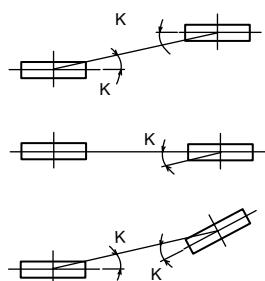

Figure1 Parallel degree of pulley
1. Set the parallel angle of the fan and the motor pulley as shown in the table and figure 1 below.
2. Set the tension of the per one belt when the flexion load is within the range as shown in the figure 1 below at the proper flexion. ( $A=4.5\text{mm}$ )